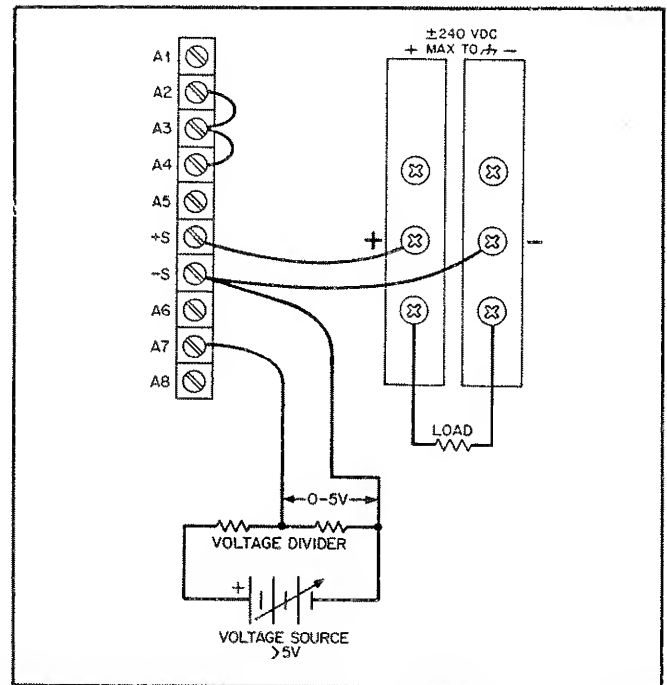

Figure 3-8. Scaled Voltage Programming of Output Voltage
**3-54 Scaled Voltage Programming of Output Voltage.** The rear-panel connections shown in Figure 3-8 allow the output voltage to be varied by using an external voltage source of more than 5 volts to program the supply. The ratio of the resistance values in the voltage divider must be selected so that the voltage at the center tap of the divider, A7, varies from 0 to 5 volts as the programming voltage source varies from zero to maximum.